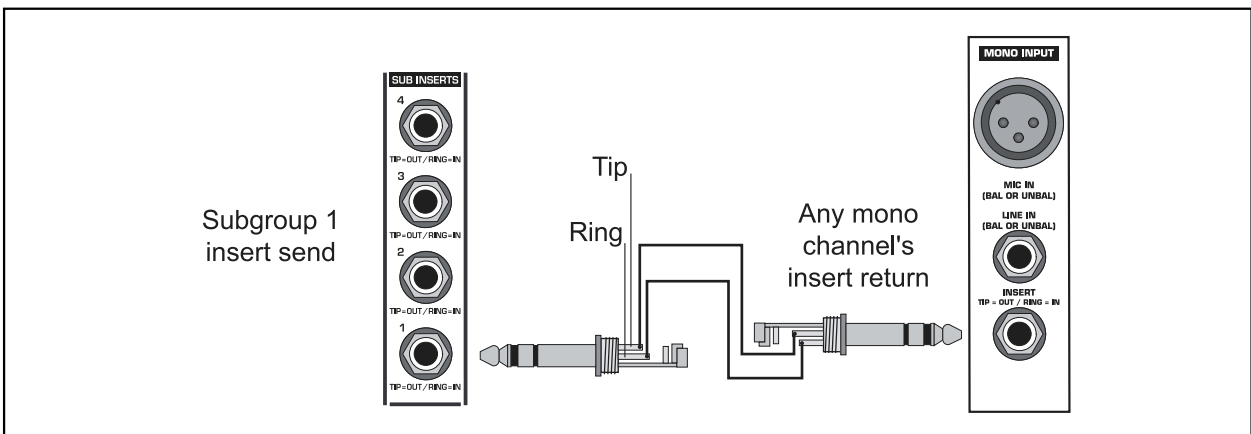

Fig. 5.3: Making use of the channel EQ for shaping subgroup signals by applying inserts
-  EURODESK insert points are, of course, simultaneously inputs and outputs. For goodness sake, get them onto a patchbay, where they can appear as independent sockets, and do away with all these fiddly Y-connectors that always seem to be the first to get knotted in the flightcase. Now it is possible to do the incredibly useful patch shown in fig. 5.3 without having to make up what would amount to a ring-to-tip, tip-to-ring stereo patch lead.